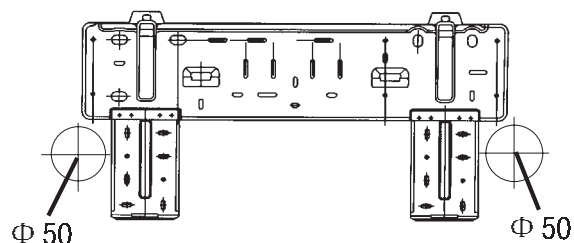

Fig. 1
1. Make the piping hole (Ø50) in the wall at a slight downward slant to the out door side. (Shown in Fig. 1)